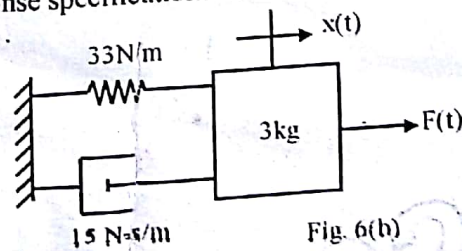

Fig. 6(b)
- b) Determine transient response specifications of mechanical system shown in fig. 6 (b) 9